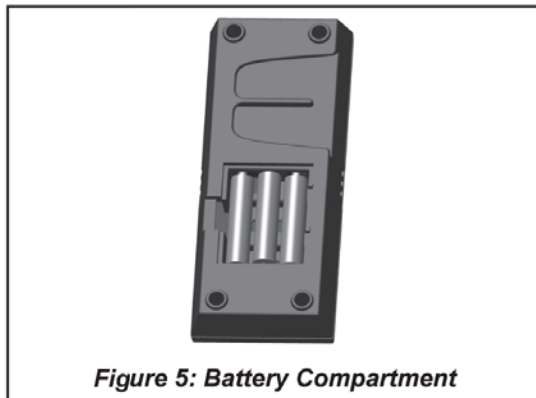

Figure 5: Battery Compartment
Power the receiver. Activate the procedure of the receiver address programming, see the receiver instruction (*). The Receiver will “beep” three (3) times to indicate that it is ready to synchronize with a Transmitter. Install the 3 AAA type batteries in the Transmitter battery bay, located on the base of the Transmitter. (Fig. 5) With the batteries already installed in the Transmitter, push the On button. The Receiver will “beep” four times to indicate the Transmitter’s command is accepted and sets to the particular code of that Transmitter. The system is now initialized.